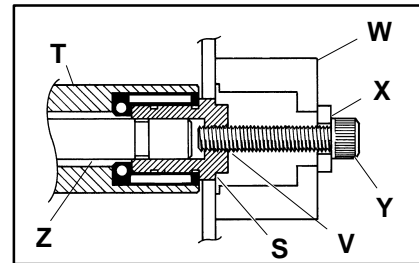

Figure 11
3. Remove the retaining sleeves (S) and pulley (T). If retaining sleeves are stuck or wedged-tight in the tail plate (U), proceed to the next step.
4. To remove a wedged sleeve, refer to Figure 11 and remove the grease fitting. Then, working through the grease fitting hole (V of Figure 11) in the sleeve (S), form a puller arrangement as shown. Use the bearing anvil/sleeve removal tool, 25-09 (W), washer 605279 (X) and M6 x 35 mm socket head cap screw 920635M (Y). (All